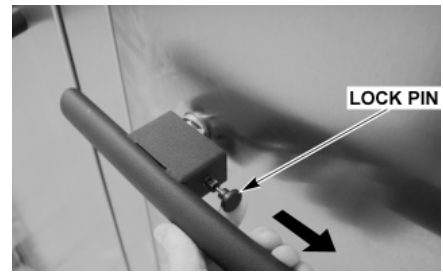

Fig. 12
- A. With the loading door shut, pull door handle lock pin out (Fig. 12).